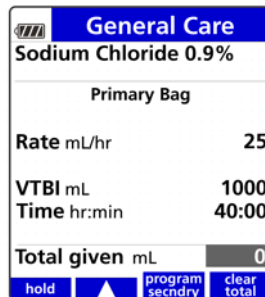

Figure 129. hold Soft Key.
2. To place the Pump in standby, press the **hold** soft key. See Figure 129.